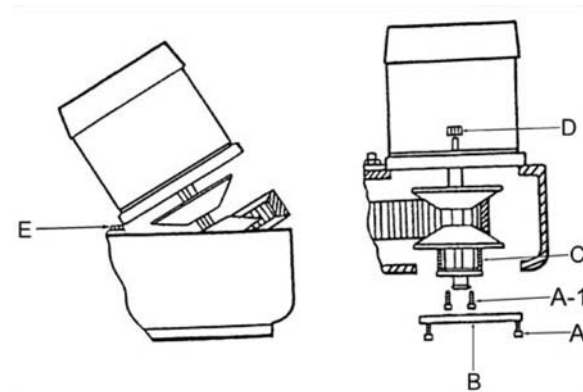

Figure 19: Motor removal
Refer to Figure 19.
3. Remove three screws (A, Figure 19) and plate (B).
4. Use two screws (A-1) to compress spring (C).
7. Remove two locking nuts (D).
8. Lift and tilt motor so that it rests on stud (E).